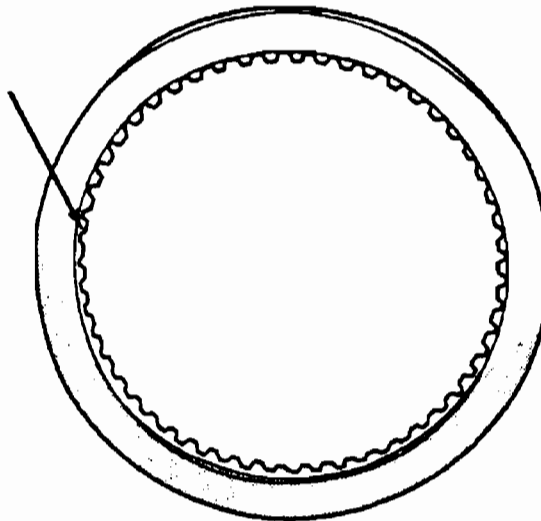

Figure 90
**Correction:** Install the Overdrive/Direct clutch reaction plate with the inside step facing down so that it will fit over the lugs on the direct clutch sliding hub. The reaction plate when installed correctly, should be flush with the end of the hub (See Figure 90).